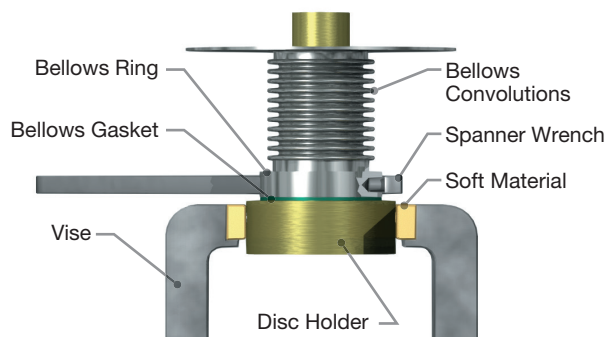

Figure 11: Removing the Bellows Ring
9. On D and E valves, remove the limit washer and tag with the valve serial number. If bellows D or E, tilt the disc holder bellows assembly and slide out the limit washer. The bellows is attached to the disc holder by right-hand threads. Apply a pin spanner wrench to the bellows ring and loosen bellows by turning counter-clockwise (Figure 11). The bellows convolutions are very thin metal and care should be taken to protect them from damage at all times. Remove bellows gasket.